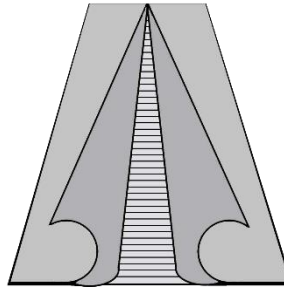

Figure 3
3. Fold over the second half of the first sheet and the first half of the second sheet (see Figure 3).